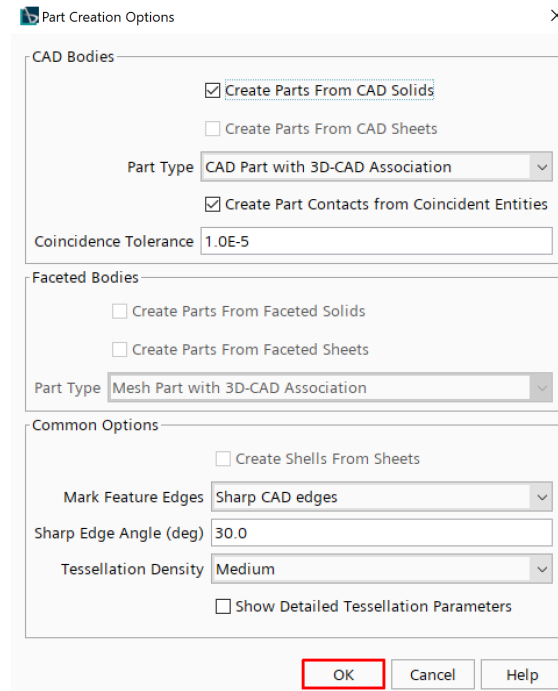

Figure 14: Part creation options dialog box.
3. The Part Creation Options dialog box will open. For this tutorial, the default settings will be what is used, so click OK. This process is shown in the following Figure 14: